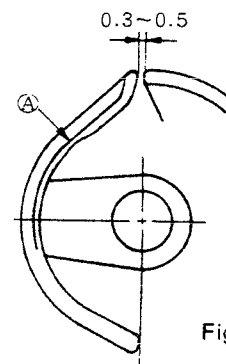

Fig. 29
Make sure that the shuttle driver does not have any scratches at all on its thread paths. Smoothness of the shuttle race surface is always important, especially for high speed operation. The side edges  $A$  shown in Fig. 29 must be smooth enough to allow the thread to pass over them.
A. The standard clearance between the shuttle driver and the shuttle is 0.3 to 0.5 mm (about 1/64"). If the clearance is smaller than that, it will not allow the needle thread to smoothly pass and will cause thread breakage or will leave an excessively long thread in the needle eye. On the other hand, if the clearance is too large, the shuttle race will make a noise. (Fig. 29)